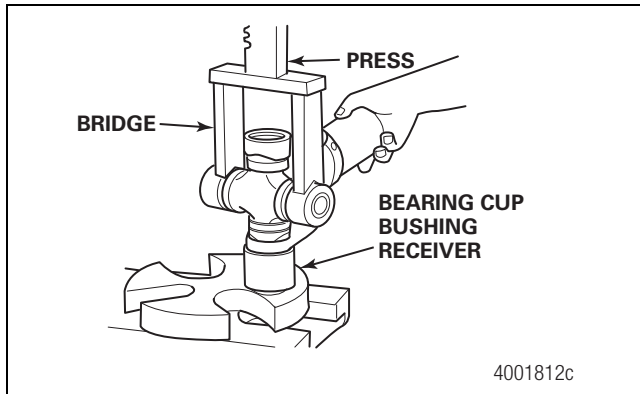
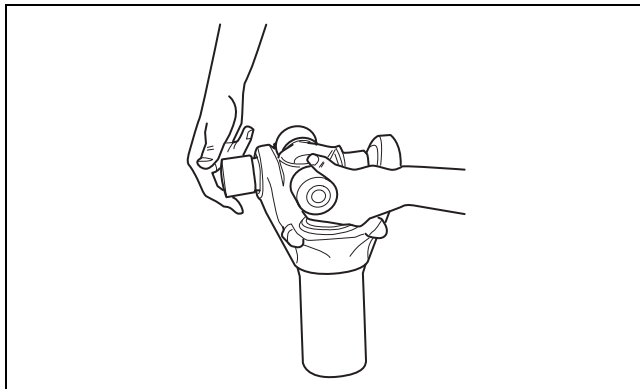

Figure 8.9
Figure 8.10
1. Place the universal joint in a suitable press bridge and bearing cup bushing receiver. Figure 8.9.
2. Press DOWN until the first round bushing loosens. Figure 8.9. Remove the round bushing. Figure 8.10.